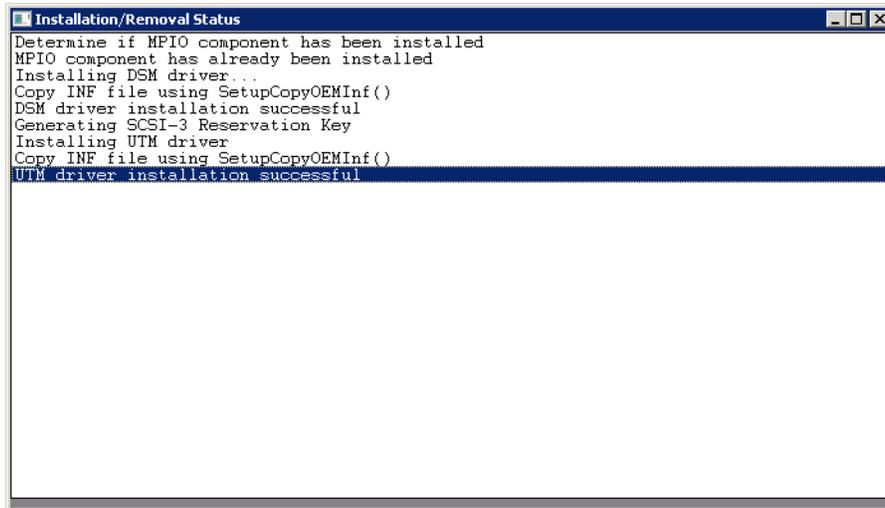

Figure 4-14 - MPIIO Device Specific Driver - installation process status console
3. During the installation process, a new window will be opened showing the installation process from the console. See Figure 4-14.